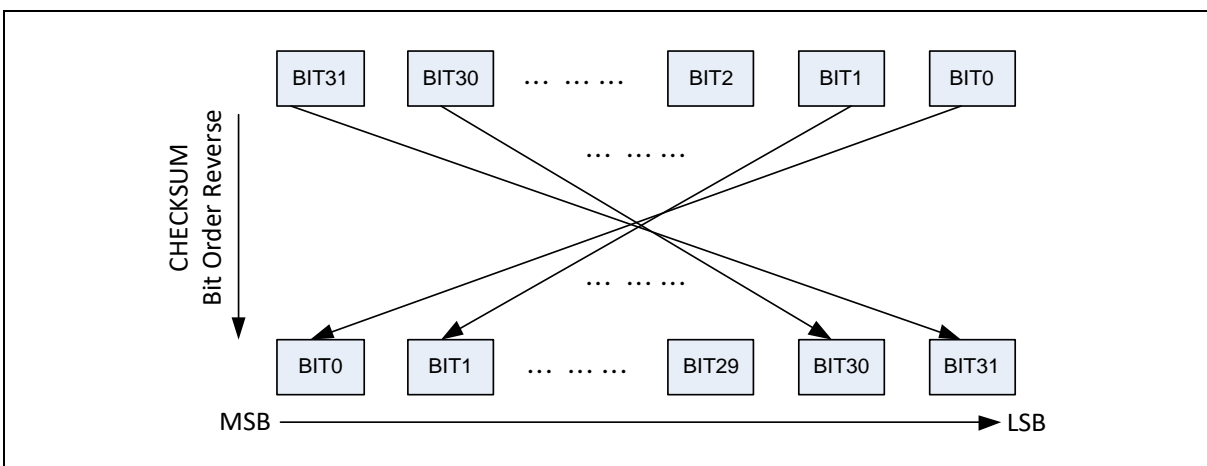

Figure 6.18-2 CHECKSUM Bit Order Reverse Functional Block
- 1) Configure bit order reverse for CRC checksum by setting CHKSREV (CRC_CTL[25] Checksum Bit Order Reverse). The functional block is also shown in Figure 6.18-2.